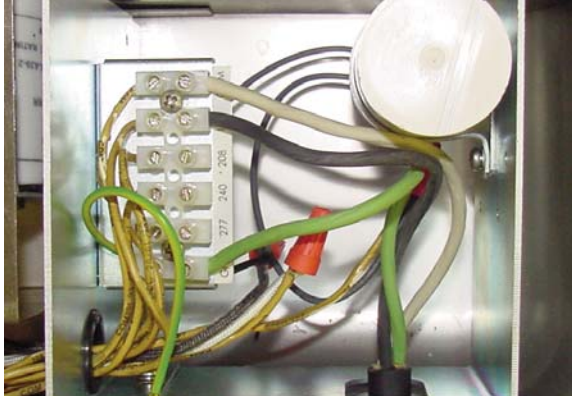

Figure 6 - Prewired Components
2. Ensure that line power is not connected to the SOW cord. Be sure to strip the wires of the SOW cord for termination. Notice that all components in the ballast assembly area are prewired. You will only need to wire line power to the terminal block and ground wire. See Figure 6.